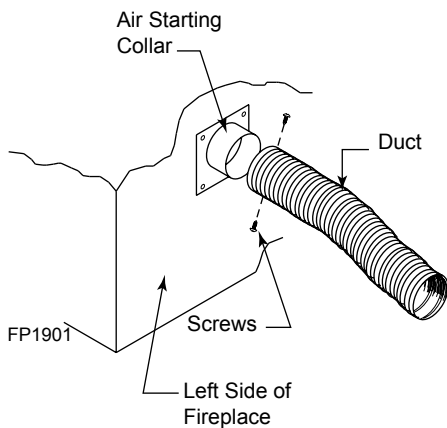

Figure 65 - Attach Outside Duct to Starting Collar
6. Select and cut a piece of duct long enough to attach to the fireplace and stick out at least 3" beyond the face of the wall to which the AK-4 inlet air vent will be attached. *Figure 65*